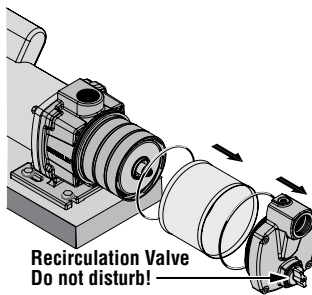

Figure 18
6. Pull the pump suction body forward (see Figure 18). Remove the sleeve (Ref. No. 9) by pulling it straight forward. Be careful not to damage the O-rings on the bracket and suction body.